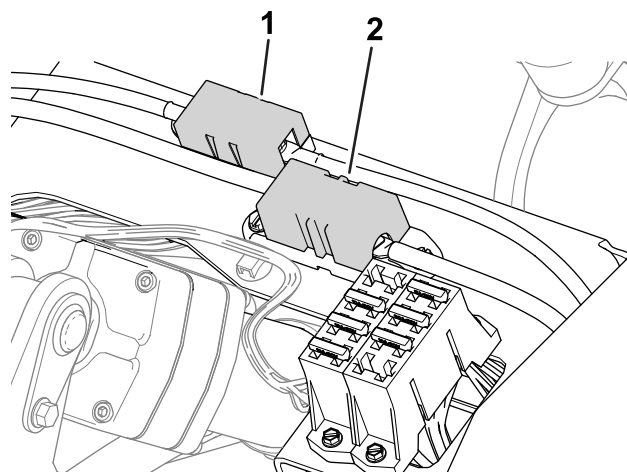

Figure 56
- The fuses for the generator (100 A) and the right wheel motor (60 A) are located under the seat (Figure 56).